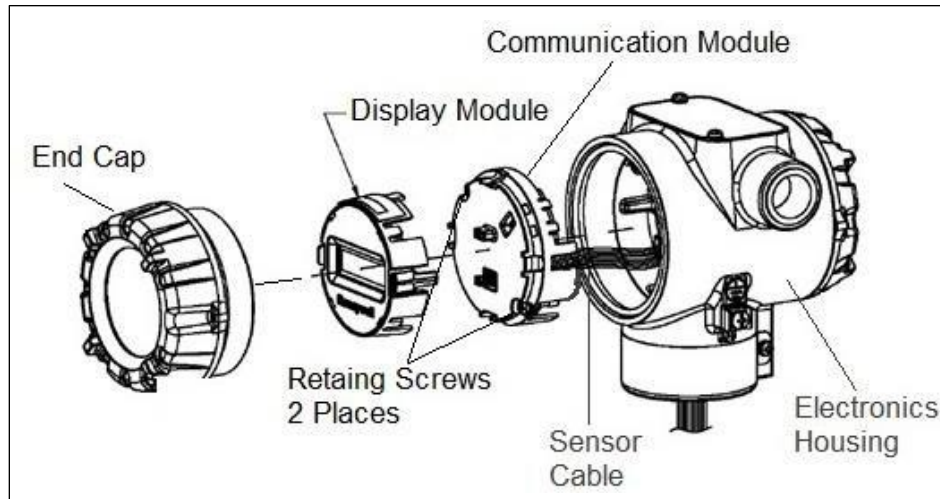

Figure 23 – ST 700 Standard Transmitter - PWA Replacement
4. Loosen the nuts in the sequence shown in Figure 23.
12. Using a torque wrench, gradually tighten the nuts in the sequence shown in Figure 23. Tighten head bolts in stages of 1/3-full torque, 2/3-full torque, and full torque. Refer to the values in Table 24 for torque requirements versus transmitter type and model.